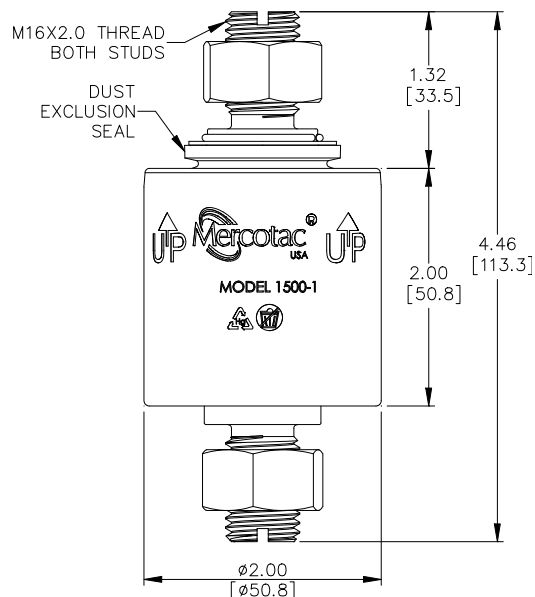

Fig 1 Dimensions: Inches [mm]
1. Mercotac® connectors can be used both horizontally and vertically. However the "UP" arrow on the body of the connector should not point below horizontal. The connectors are reversible so they need not be installed upside down. It is preferable to store units upright (arrow up). <Fig 1>